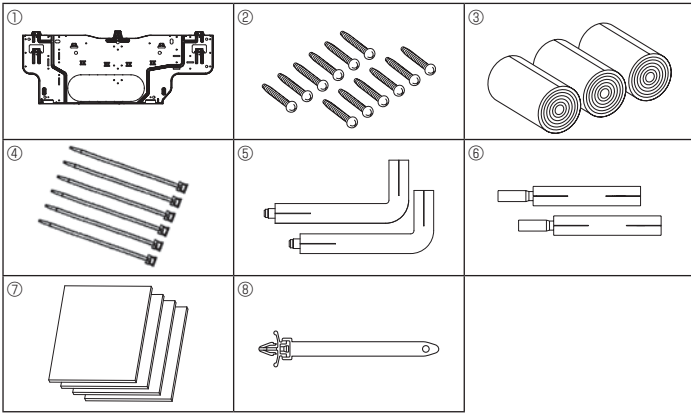

Fig. 3-1
3.1. Check the indoor unit accessories (Fig. 3-1)
- Ⓐ Mount board ① in Fig. 3-1
- Ⓓ Fixing screws (4 × 25) Ⓜ in Fig. 3-1
- Ⓕ Mount board Ⓛ in Fig. 3-1
- Ⓐ Water pipe (IN)
- Ⓔ Felt tape Ⓜ in Fig. 3-1